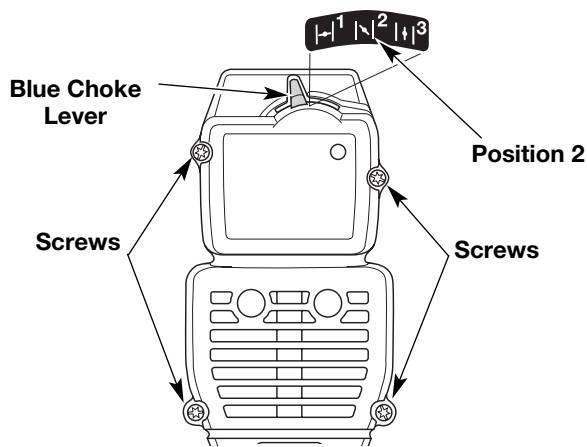

Fig. 13
NOTE: The blue choke lever must be in Position 2 (Fig. 13) to remove the air filter/ muffler cover.
2. Remove the four (4) screws securing the air filter/muffler cover (Fig. 13). Use a # T20 Torx bit screwdriver.
2. Insert the four (4) screws into the holes in the air filter/muffler cover (Fig. 13) and tighten. Use a # T20 Torx bit screwdriver. Do not over tighten. Do not force.